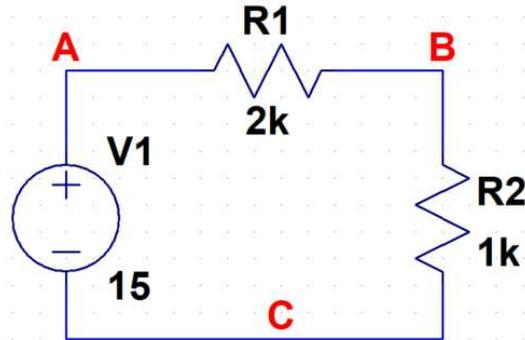

Figure A-1. Example of Nodal Connections
Notes: In a circuit, the connections between different components are called nodes. In Figure A-1, the voltage source V1 is connected to resistor R1. The nodal connection has been labelled as **A**. Likewise, the nodal connection between R1 and R2 has been labelled **B** and the nodal connections between R2 and V1 has been labelled **C**.
designation is used as a reference for interconnected circuits such that they have a common reference. In the circuits in Figures A-1 and A-2, we can designate any of the nodes as a 0V ground and it will not change the voltage differences measured in the circuit. Typically, we choose the node at the ‘bottom’ of the circuit as a common ground (0V), but that is only for convenience and not required.
- The circuit is ready for simulation. However, it will make analysis easier to add node labels to the circuit. There are three nodes (as seen Figure A-1). To add labels, right click on the wire between components and